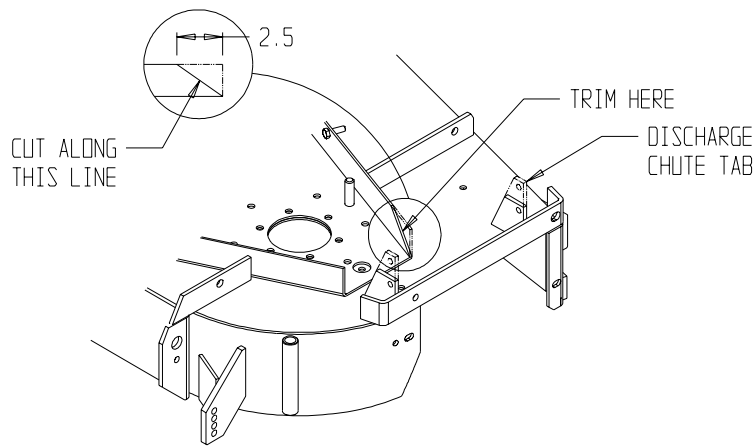

FIGURE 4
13. The front right deck stiffener must be trimmed for belt clearance on 52" Lazer Z units. Measure and mark the deck stiffener per Figure 4. Trim off the indicated portion of the stiffener. Touch up the trimmed area with Exmark red touchup paint – P/N 1-850337.